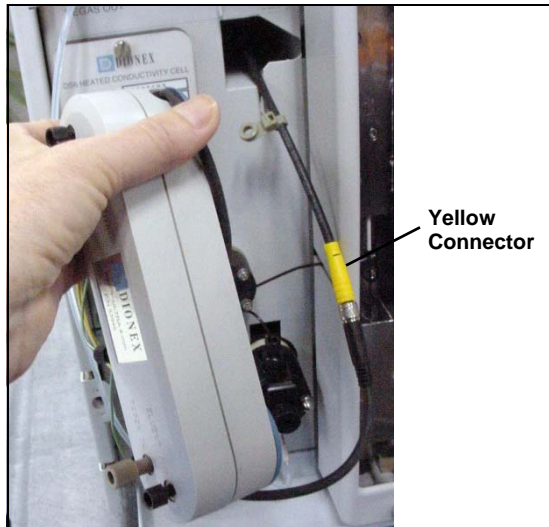

Figure 5-21. Removing the Suppressor
6. Continue pulling the suppressor out until the yellow connector on the cable inside the ICS-2100 is outside the panel (see Figure 5-21).